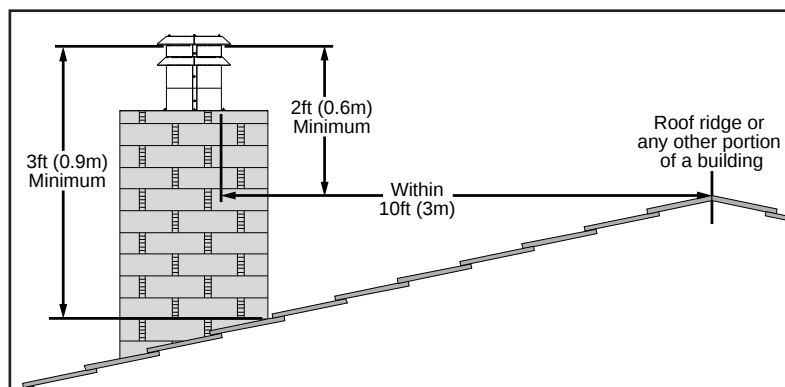

Figure 35: Roof Clearances.
The Enviro E20 may be installed and vented into any solid fuel fireplace that has been installed in accordance with the National, Provincial/State and local building codes and has been constructed of non-combustible materials. Before starting, refer to INITIAL INSTALLATION - PREPARING YOUR E20 FOR INSTALLATION. Please reference the information in Table 4 and Figures 35, and 38.
- 1b. The adjustment screw can be reached through the front of the unit using an eight inch flat head screw driver (see Figure 35 for location on valve).